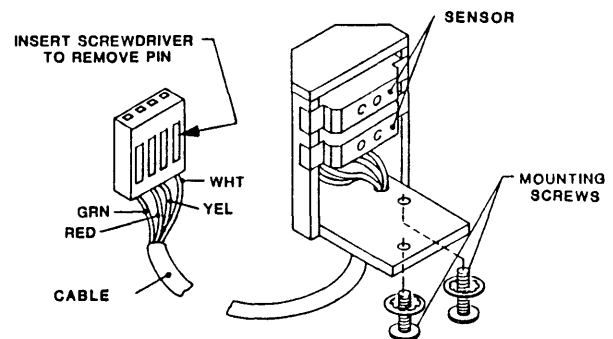

Figure 5-23. EOT/BOT
5.3.28 BOT/EOT SENSOR ASSEMBLY (Fig. 5-23)